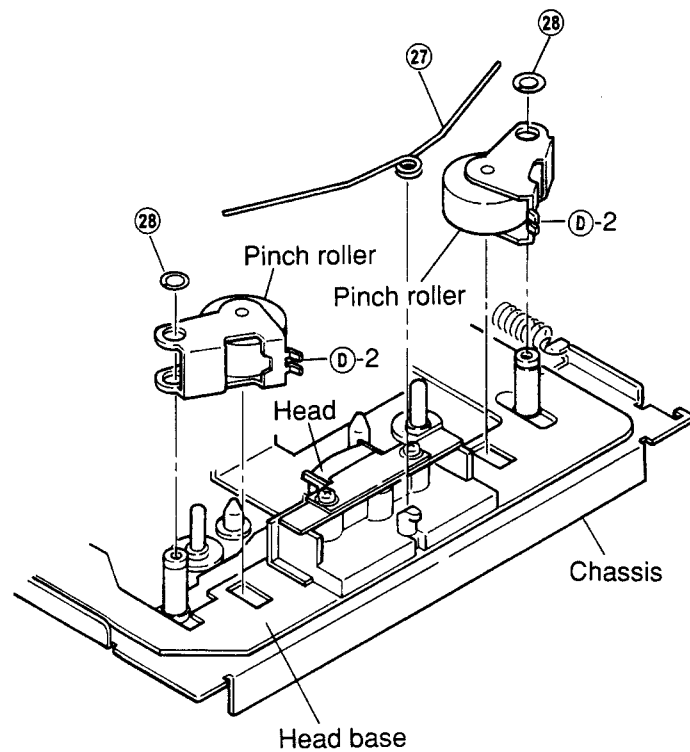

Figure 20
- (1) Remove pinch roller spring ②⑦ as shown in Figure 20.
- (2) Remove M3.1 two lock washers ②⑧ and remove the pinch roller as shown in Figure 20.
- (3) Mount the pinch rollers following the removal steps in the reverse order.
Apply insulation coating to the position ①-D-2 of the pinch roller as shown in Figure 20.